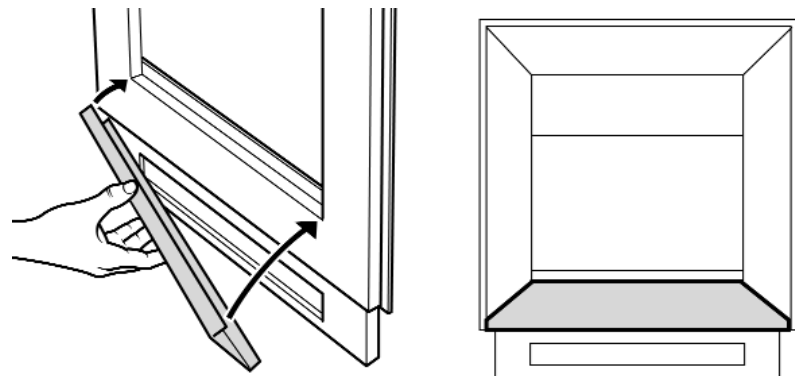

Figure 29 Fitting the bottom trim.
6. Locate the bottom trim as in figure 29.